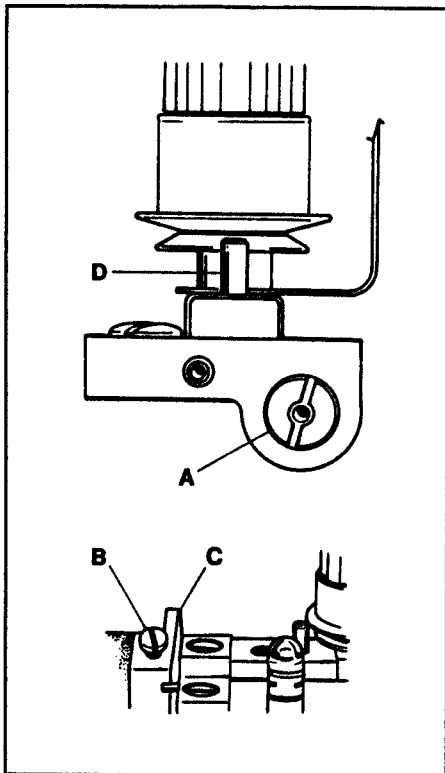

FIG. 36
The tension release should start to function when the presser foot has raised approximately $1/32$ " (0.8mm) above the surface of the throat plate and be entirely released when the presser foot has reached its highest position. Insert a large screwdriver into slot on the right end of shaft (A, Fig. 36), loosen screw (B) in lifter lever (C) and turn the screwdriver to raise or lower pins (D). Tighten screw (B).